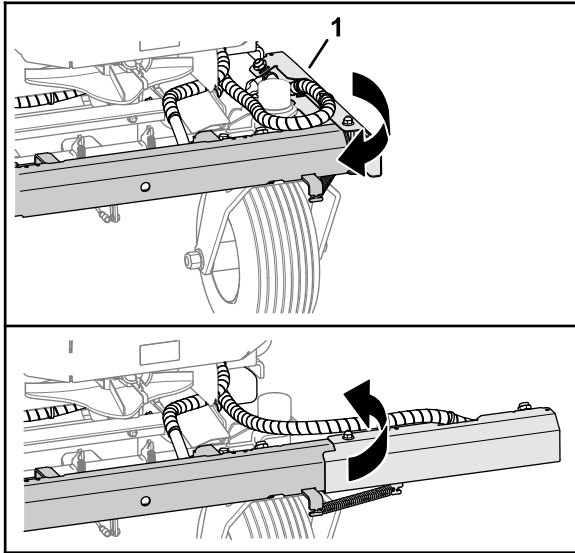

Figure 32
- Rotate the outer spray boom forward to extend the boom (Figure 32).
- Rotate the outer spray boom rearward to fold the boom (Figure 32).